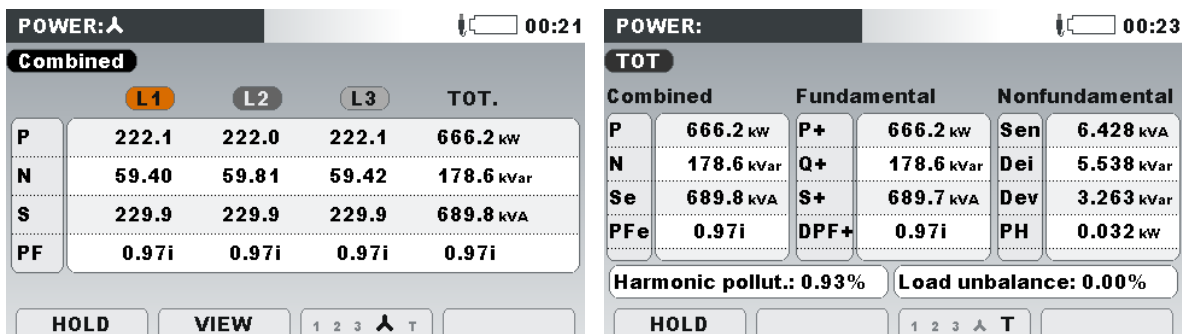

Figure 4-49: Real time measurements of powers
- Consumed energy (power) is energy consumed on consumer side. It is represented with a positive sign (see Figure 4-49).